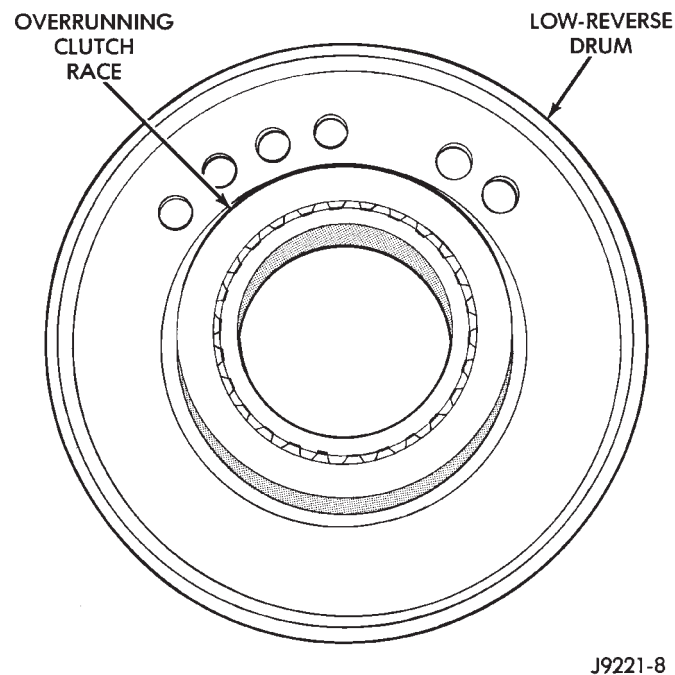

Fig. 115 Overrunning Clutch Race Position On Low-Reverse Drum
(28) Note that overrunning clutch race will remain on splines of low-reverse drum after removal (Fig. 115). **The race is a permanent press fit on the hub splines. Do not attempt to remove the race.**